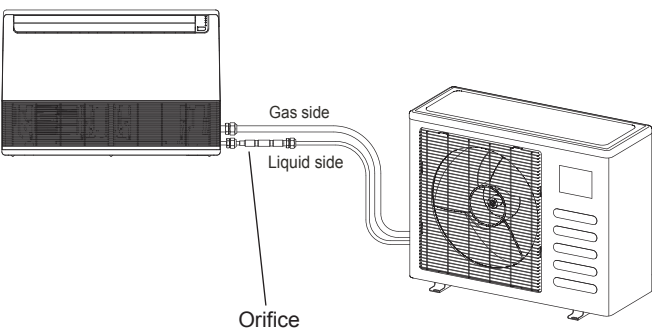

Fig. 9-1
- Disassemble the bolts from the cover.(If there isn't a cover on the outdoor unit, disassemble the bolts from the maintenance board, and pull it in the direction of the arrow to remove the protection board.) (Refer to Fig.9-1)